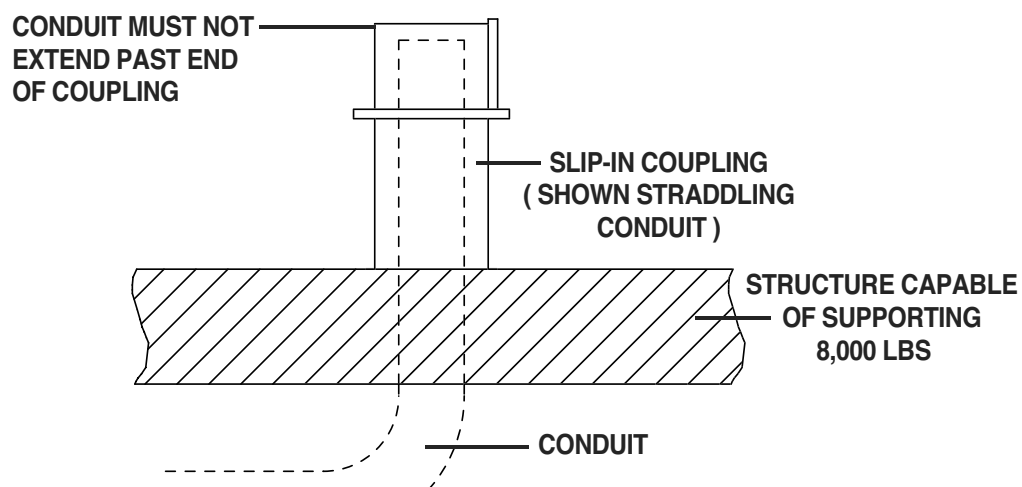

Figure 17a
2. Place the coupling over the conduit. The conduit must NOT extend past the end of the coupling. (See Figure 17a)